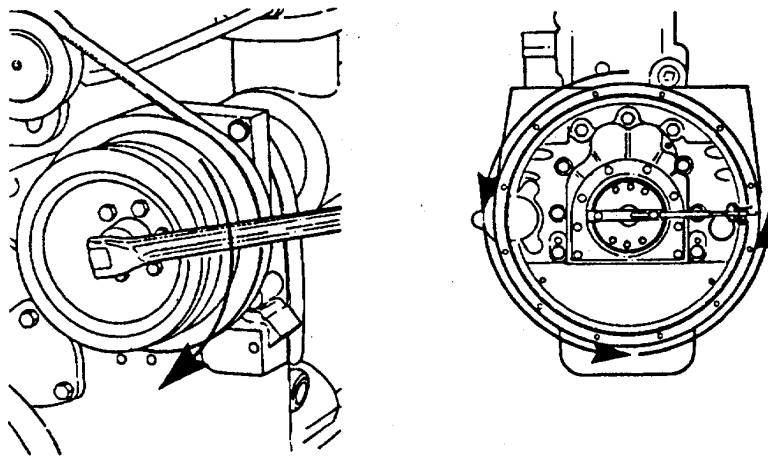

FIGURE 3-71. Rotating Crankshaft.
- (d) Use the accessory drive shaft to rotate the crankshaft in a clockwise direction (Figure 3-71).